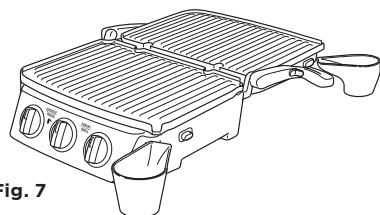

Fig. 7
- Use two drain collection cups. (Fig. 7)